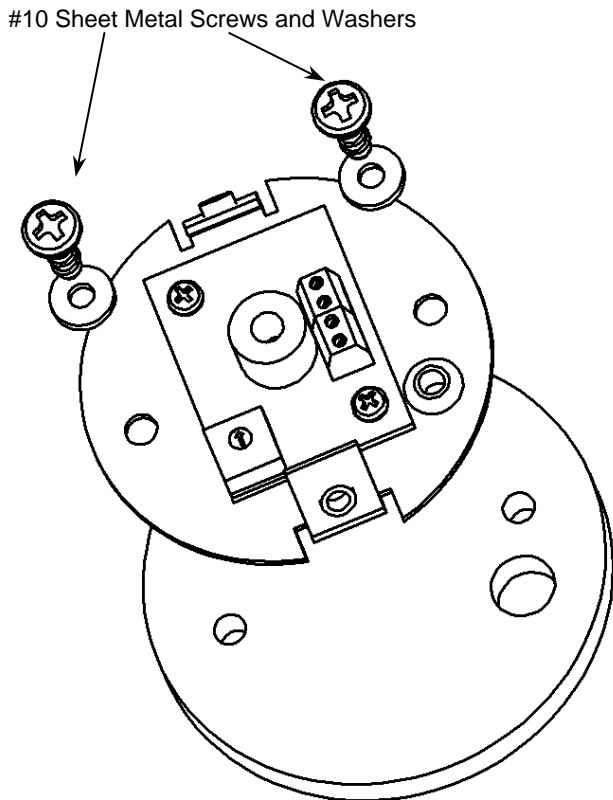
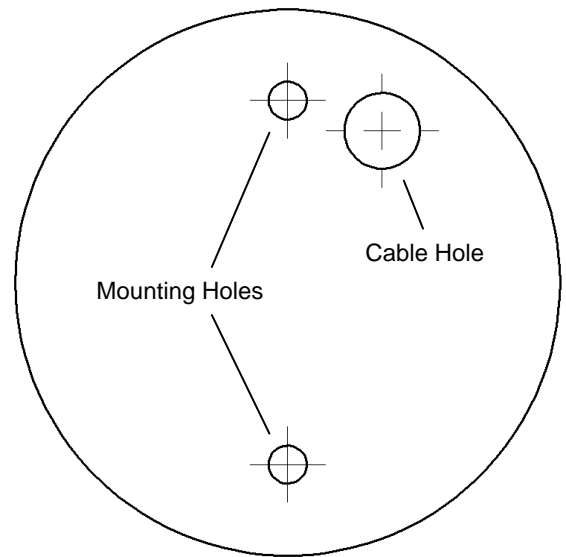

Figure 2: SA-MIC Installation
Figure 3: Mounting Template (Actual Size)
- 2 **Figure 2** below shows the assembly of the SA-MIC. Use the mounting template shown in **Figure 3** to drill pilot holes for the #10 mounting screws included in the hardware kit. Also, if the cable is to be concealed, drill a hole in the mounting surface for the cable connectors to pass through.